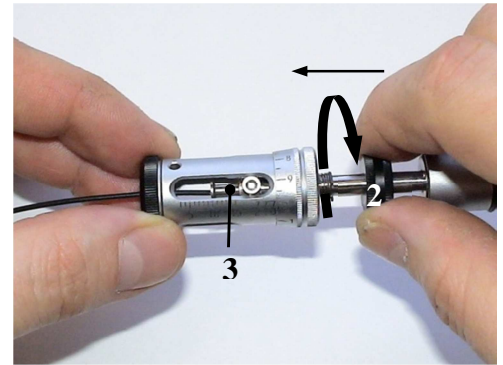

Fig. 9 Stopper setting
- Release the length setting ring gauge (2) by twisting it in the direction of the arrow, pull it as far back as it will go and fix into position. (Fig. 9)
- Release the length setting ring gauge again **(2)** by twisting it in the direction of the arrow, and push forwards until the stopper **(3)** is touching the cable. Then fix the length setting ring gauge **(2)** into position by twisting it in the opposite direction **(Fig. 9)**.